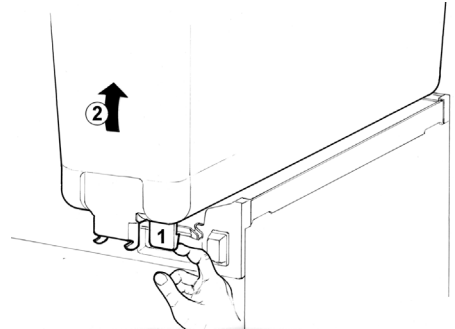

figure 2
2. Remove the empty bowl by lifting pulling lever (1) and its front side (faucet side) up and off bowl gasket (see figure 2).